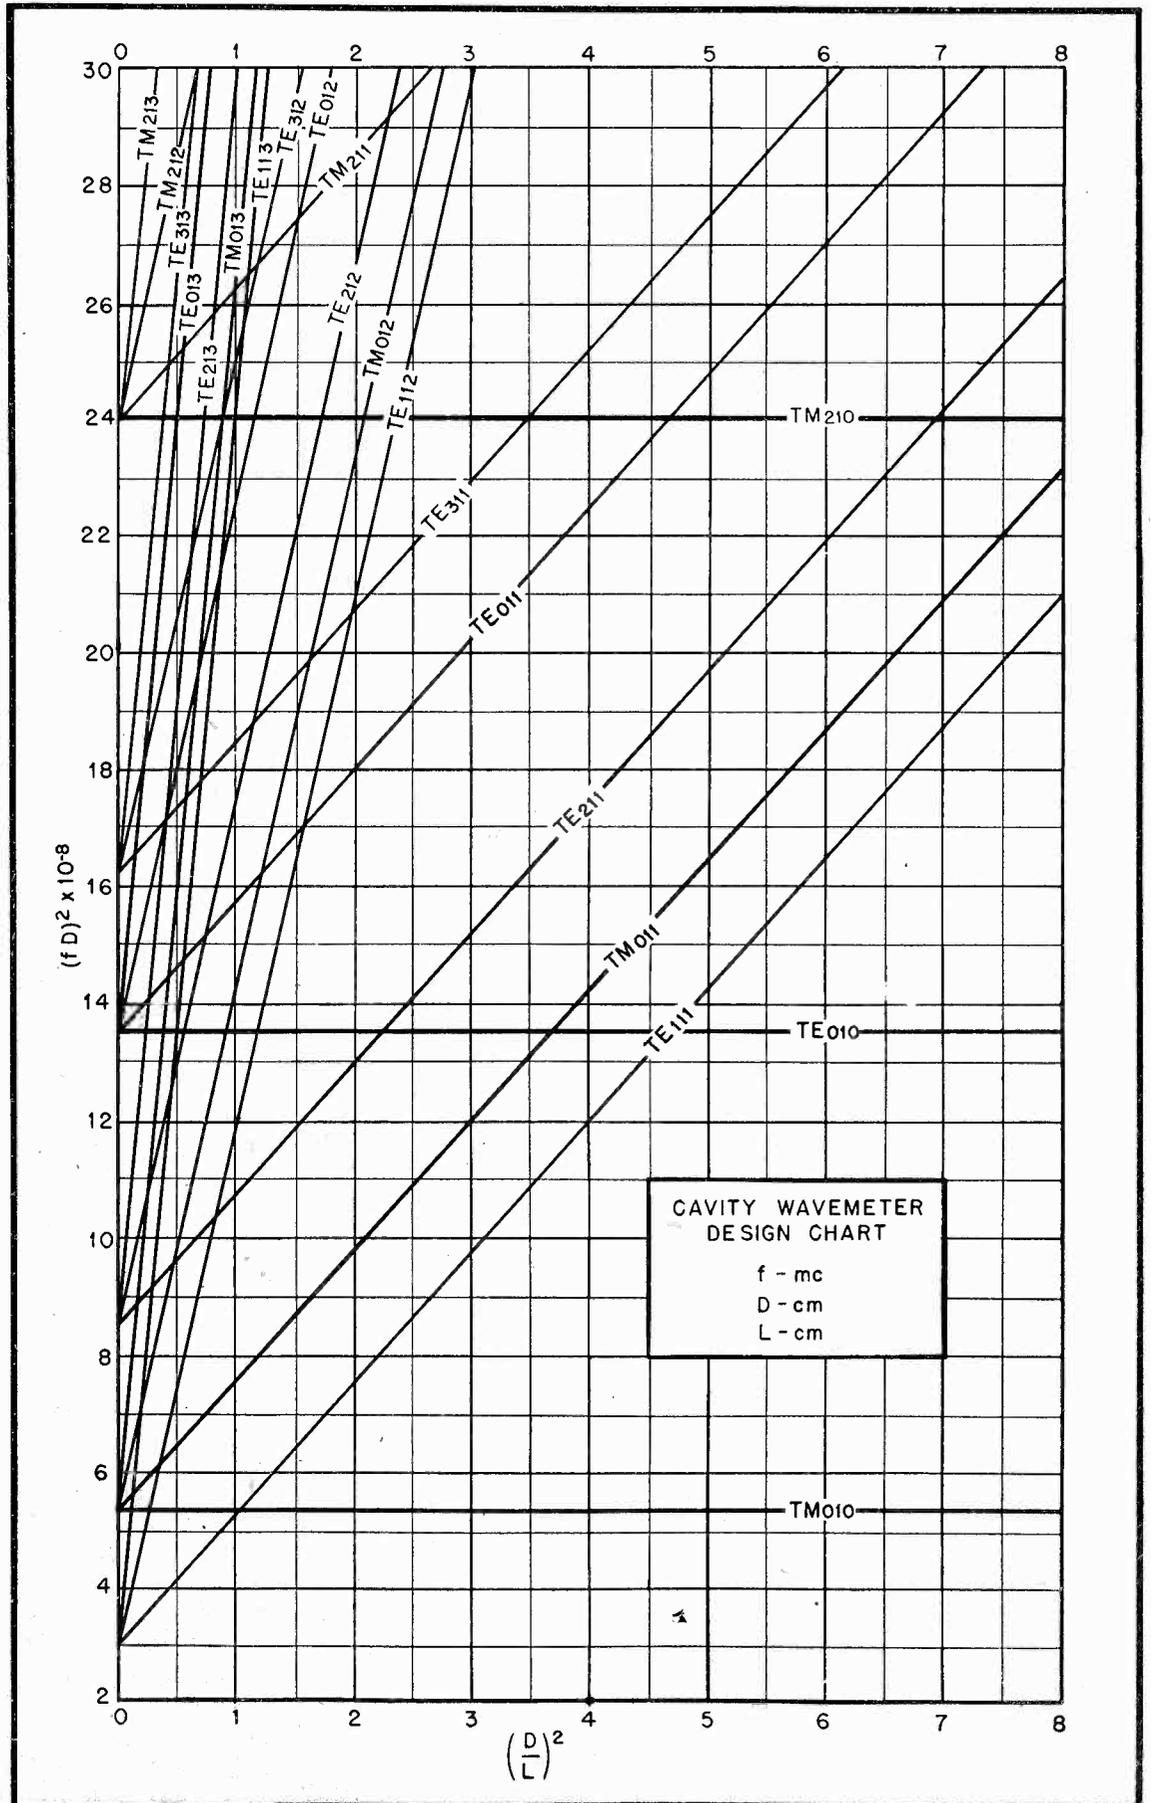

Fig. 4. Plot of  $(D/L)^2$  as a function of  $(fD)^2 \cdot 10^{-8}$  affords rapid solution of equation (8) for various low-order modes.
Fig. 4 is a plot of equation (8) for several low-order modes. From this
Frequencies of crystal and master oscillators are divided to a common frequency as indicated in *Fig. 4* to reduce the deviation for proper operation of the phase detector. These two voltages are combined in the balanced phase-detector circuit shown in *Fig. 5*, and the integrated rectified output is utilized to bias the modulator so that the mean frequency of the master oscillator may be pulled in and locked with that of the crystal.
Fig. 4. (above) Detailed block diagram showing frequency intervals of c-f-c and modulator unit. Fig. 6a. (below) Basic block diagram of Western Electric electro-mechanical c-f-c system.